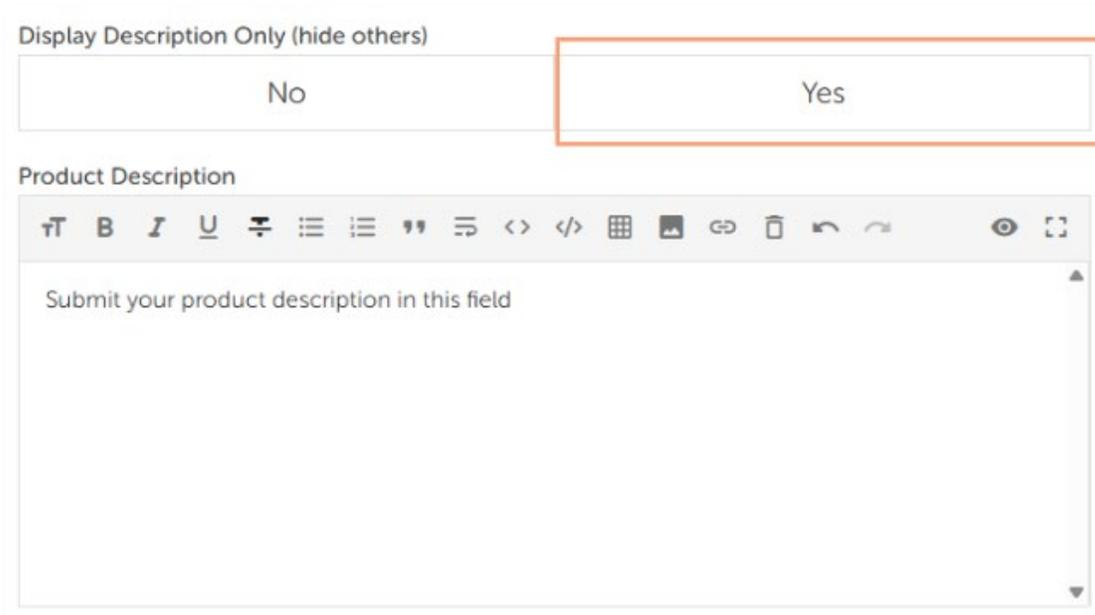

Figure 8: Product Description Display and Product Description Field
- e. To add a product description, use the free-type field in the Product Description section and select Display Description – **see Figure 8.**